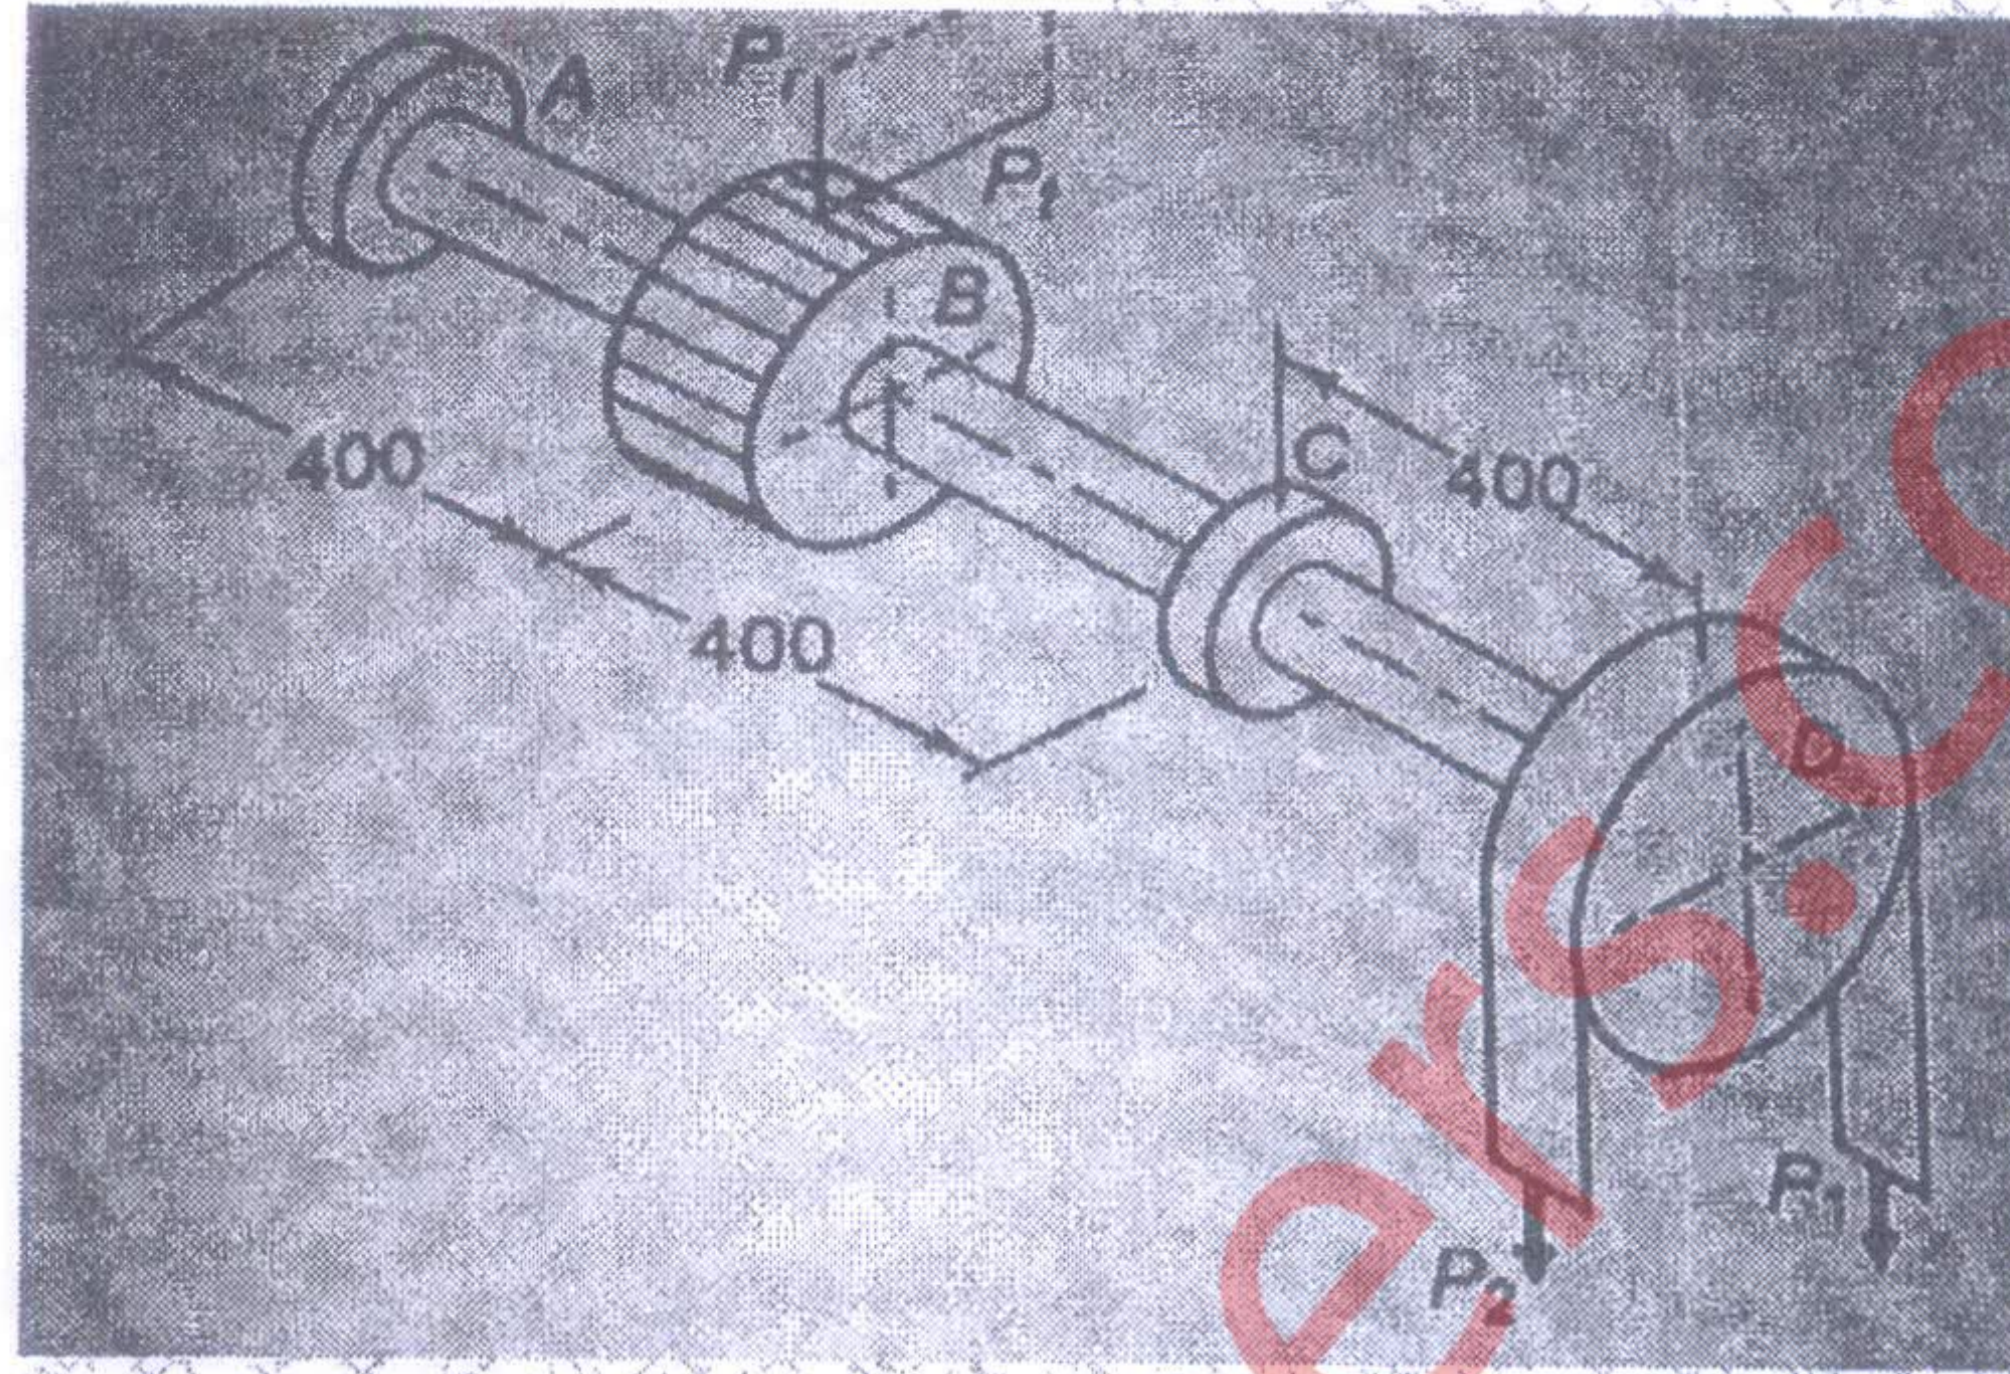

Fig.1
- A transmission shaft supporting a spur gear B and pulley D is shown in Fig. 1. The shaft is mounted on two bearings A and C. The diameter of pulley and the pitch circle diameter of the gear are 400 mm and 300 mm respectively. The pulley transmits 15 kW power at 550 rpm to the gear. P_1 and P_2 are belt tensions in tight and loose sides, while P_t and P_r are tangential and radial components of gear tooth force. Assume $P_1 = 3P_2$ and $P_r = P_t \tan (20^\circ)$ 16